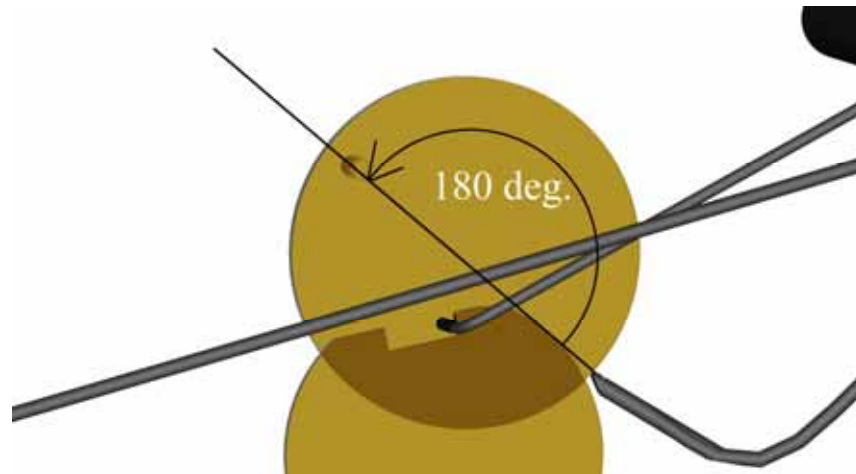

Figure 41: Showing 180° of warning with the strike train at stop.
3. Arrange the 2nd/pin-wheel (J) so that the hammer lever (G) is between two hammer pins or has just dropped off of a hammer pin.
4. Arrange the 3rd wheel/stop-maintenance cam (I) so that the stop/maintenance lever (B) rests on the stop face of the notch.
5. Arrange the warning wheel (H) so that the warning pin is approximately 180° away from the warning lever (E). (See figure 41.)
Without disturbing the strike train from its previous position, examine the relationship between the warning lever (E) and the warning pin. The pin should be approximately 180° away from the warning lever (E). (See figure 41.) Too much warning and the strike train will advance sufficiently to pick up a hammer (N) in warning causing “hammer on the rise” and too little could risk a stall due to insufficient clearance of the stop/maintenance lever (B). This is where proper assembly pays off! If the warning pin isn’t close to optimal then the warning wheel (H) will need to be reset. Loosen the plates a bit at the top and spread them with finger pressure until the pivot of the warning wheel (H) comes free. This will enable you to disengage the pinion of the warning wheel (H) from the 3rd wheel/stop-maintenance cam (I) and rotate it independently. Rotate the warning wheel (H) the appropriate direction for the warning pin to be approximately 180° away from the warning lever (E) while maintaining the position of the stop/maintenance lever (B) hard against the stop face of the notch in the stop/maintenance cam (I). Re-assemble the plates. With a little practice this will become easier.